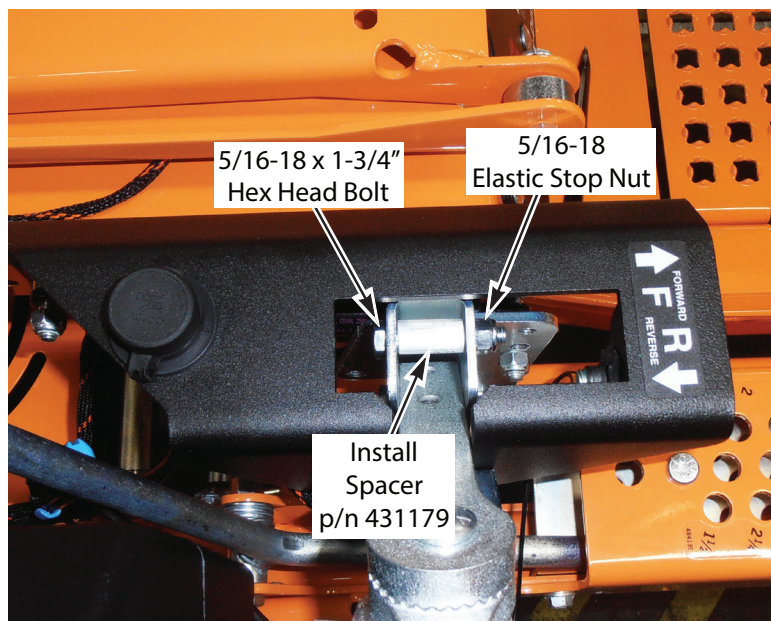

Figure 3. Install Spacer p/n 431179 - RH Shown
- 2.) Install spacer p/n 431179 and secure using 5/16-18 x 1-3/4" hex head bolt and 5/16-18 elastic stop nut removed in previous step. See Figure 3 below.